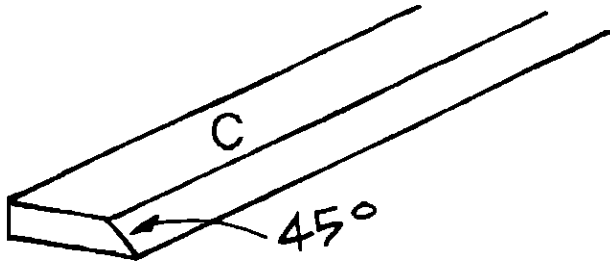

Figure 1
1. Cut eight leg pieces (C) from 1 x 4 pine, each 22-1/2" long. Then set your saw blade to cut 45 degrees off vertical, and bevel one 22-1/2"-long edge of each of the legs (C) as shown in *Figure 1*.